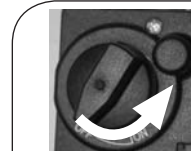

Fig. 5-2
- a. With the pilot lit, turn the flame height control knob towards **ON** (counterclockwise ↶); see Fig. 5-2.